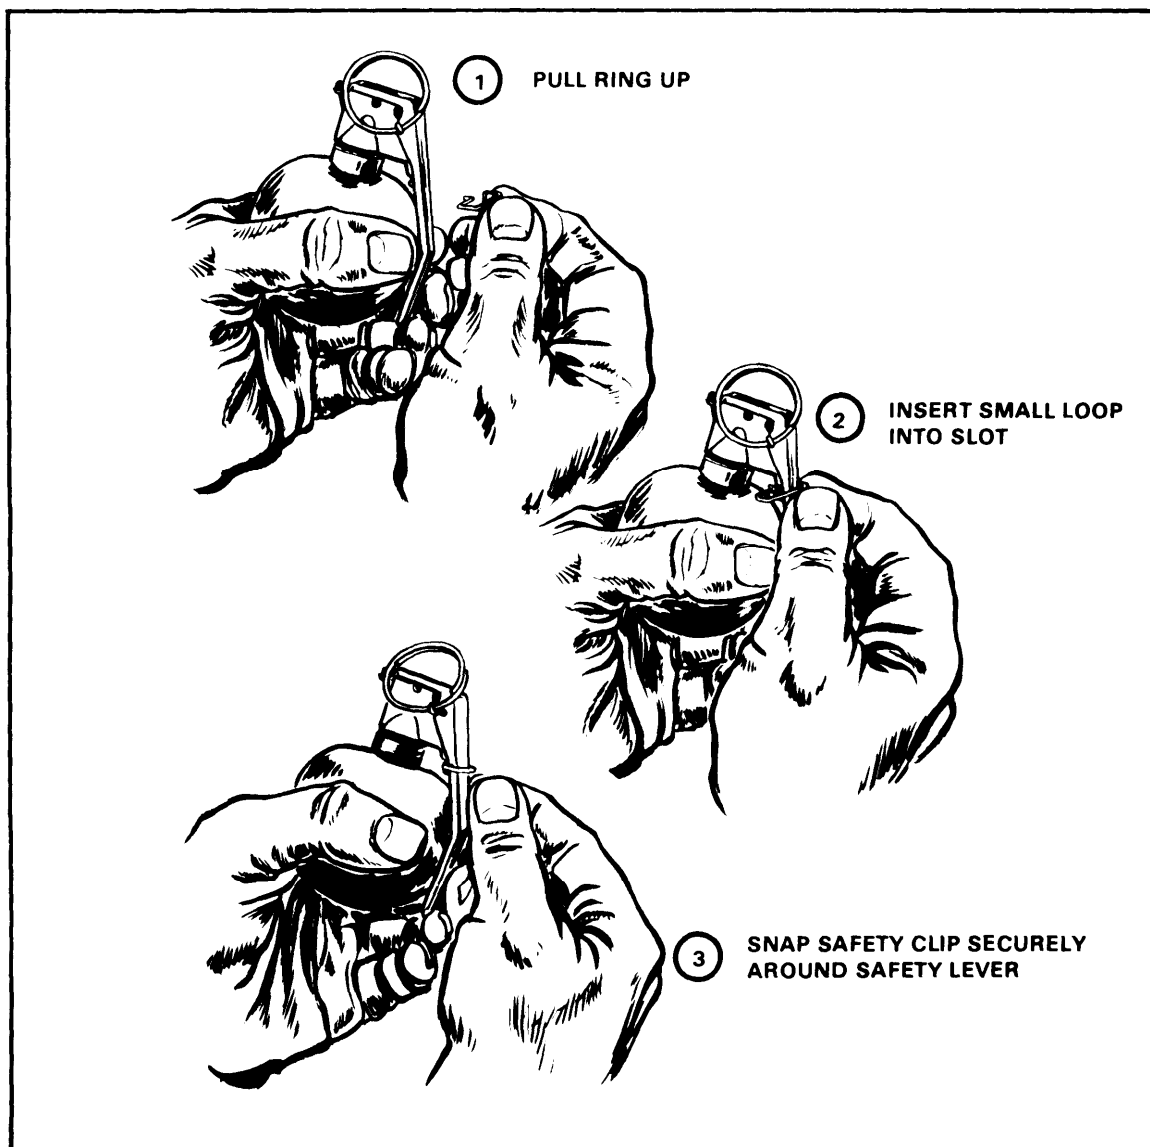

Figure 1-1. Safety clip insertion.
in Figure 1-1. Safety clip installation instructions are as follows:
(1) Hold fuzeed grenade in palm of hand with pull ring up (Figure 1-1).
(2) Insert small loop at open end of safety clip in slot of fuze body beneath the safety lever (Figure 1-1).
(3) Press clip across safety lever until closed end of clip touches safety lever and clip is snapped securely in place around the safety lever (Figure 1-1).